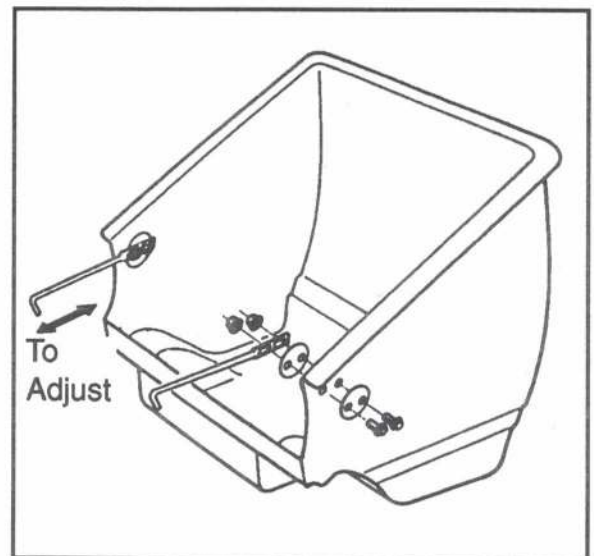

Fig. 9
1. SEE FIG. 9: Loosen catcher hook, nuts and bolts. Remove front nut and bolt from each catcher hook. Then raise catcher hooks and fasten both hooks with the bolts. Leave bolts loose until catcher is adjusted for proper clearance from the reel blades.